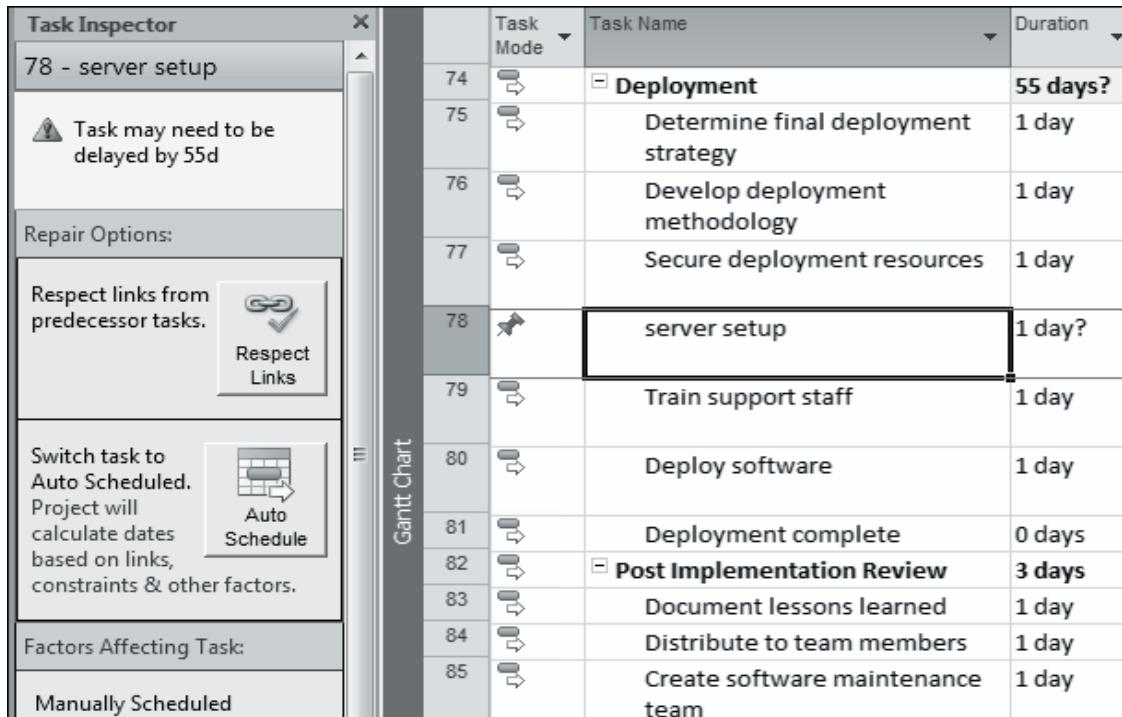

Figure 10.12: Task Inspector Pane Displaying Repair Options
2. Click the task to inspect, and the **Task Inspector** pane explains the driving conditions of the selected task's timing as shown in figure 10.12.